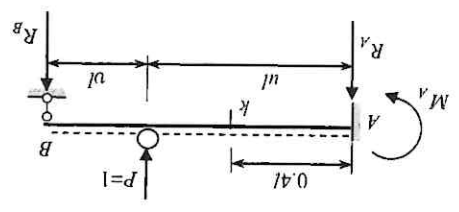

Fig. P10.3
10.3. Uniform clamped-pinned beam is shown in Fig. P10.3.